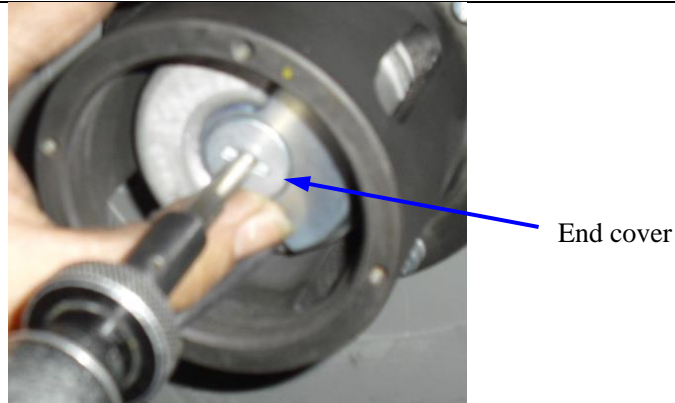

Figure 16: End cover removal
2. Remove the end cover with hex wrench 4mm. See Figure 16.